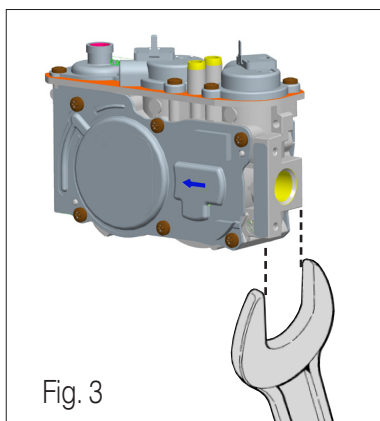

Fig. 3
- Use only the specified spanner grips when making the connections (see Fig. 3)
5. Connect pipe to valve inlet and outlet. Place a 1" 1/16 wrench on valve as shown in Fig. 3.